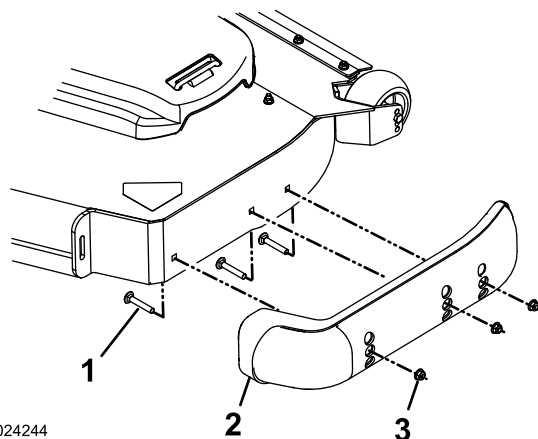

Figure 29
3. Remove the carriage bolts and nuts from each skid (Figure 29).